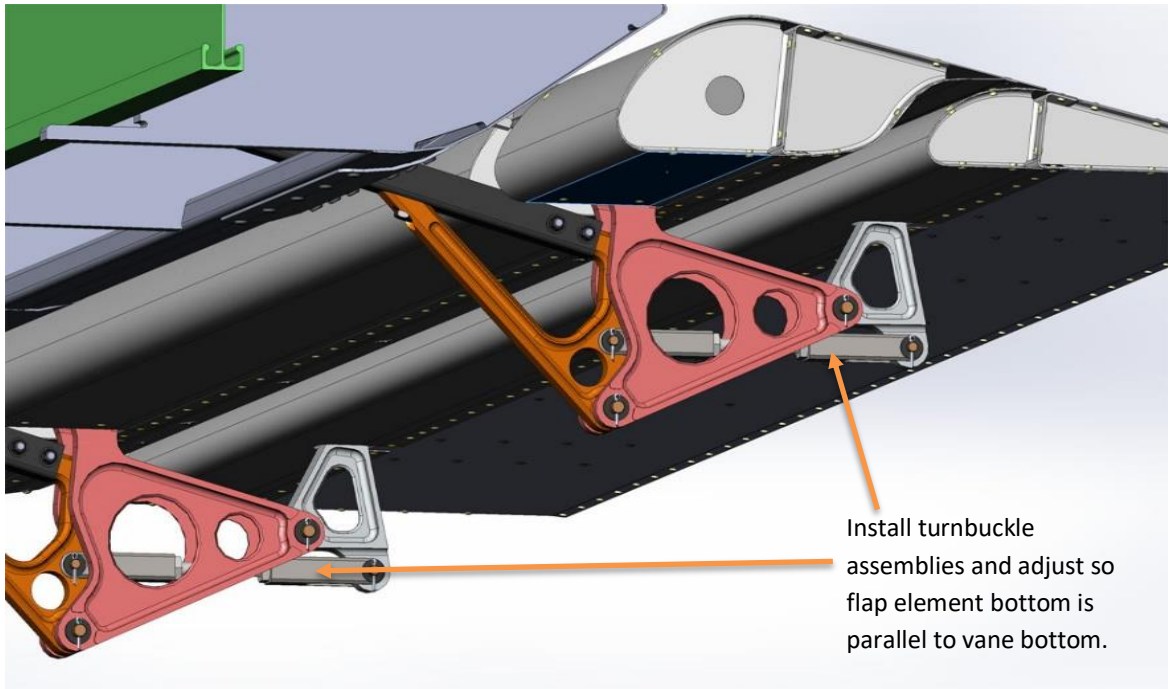

Figure 17: Mount turnbuckle assemblies
26. Mount the turnbuckle assemblies (PSTOL-0038) to the hanger extenders (PSTOL-0029) and flap elements (PSTOL-0027) as shown in Figure 17. Each end of each turnbuckle assembly is mounted with an MS20392-2C21 clevis pin, one AN960-10L washer under the cotter pin, and an MS24665-132 cotter pin. Using a long straight edge, adjust the turn buckle assemblies so the flap element bottom is parallel to the bottom of the vane element. Repeat for second wing.